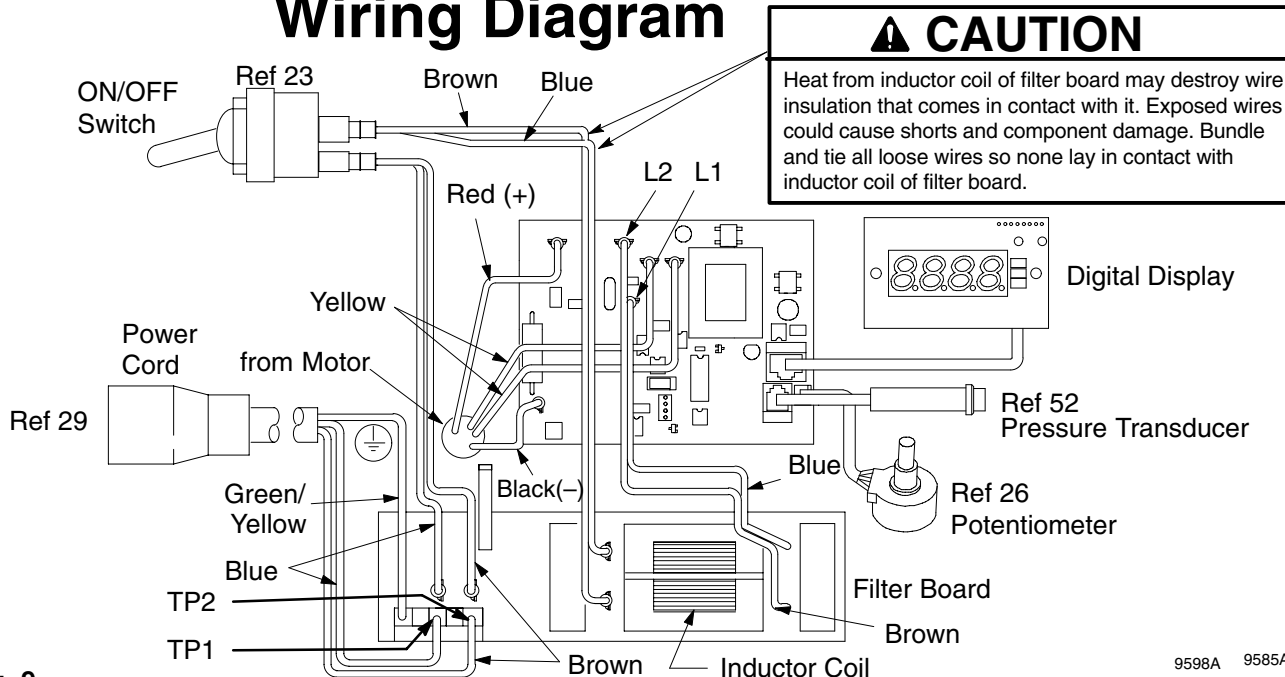

Fig. 9
2. Fig. 9. Remove pressure control cover (39).
3. Remove display connector (B) from plug (C)
4. Disconnect four wires (A) at ON/OFF switch (23).
5. Remove toggle boot (25) and locking ring (24). Remove ON/OFF switch (23).